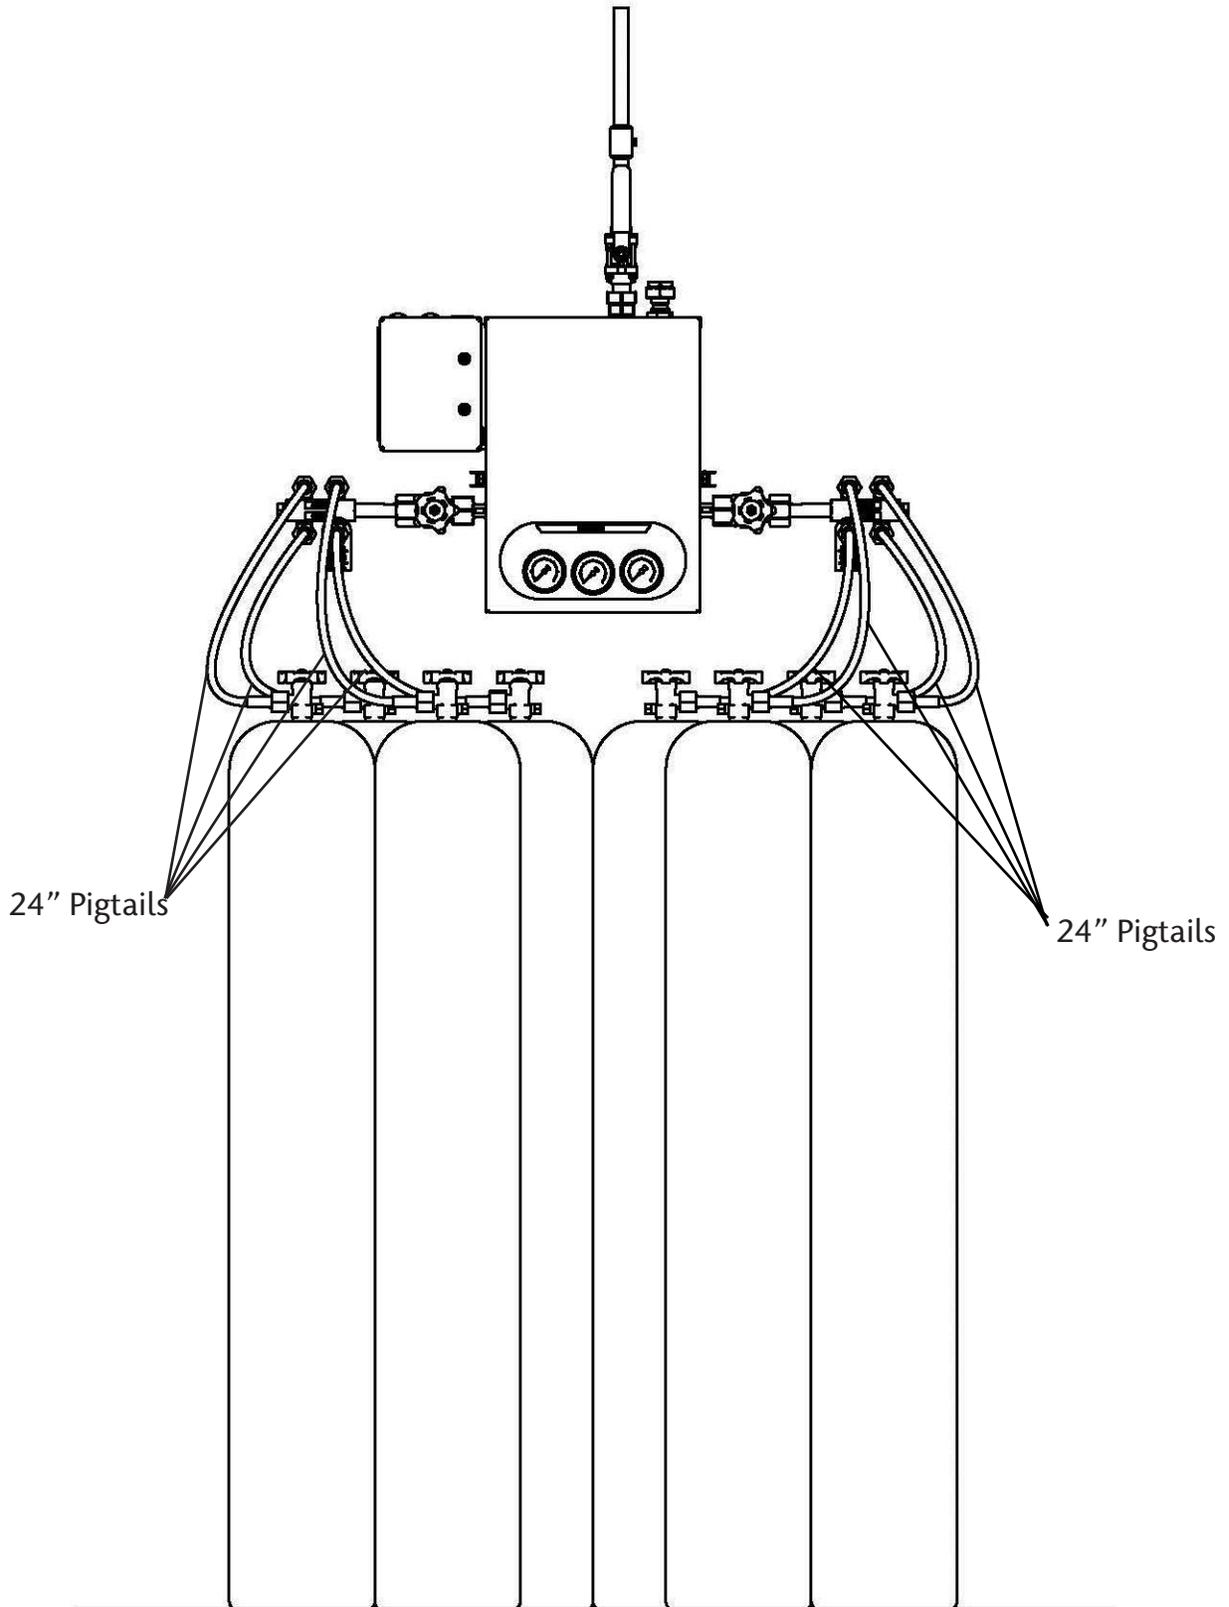

Figure 10
All manifolds other than O2, He, CO2O2, O2CO2, HeO2, O2He, ISO N2O, ISO Inst. Air, and ISO Med. Air utilize 24" length flexible stainless-steel braided pigtails. All cylinders on the right bank of the manifold, even those placed directly beneath should be positioned so that the cylinder outlets face right. All cylinders on the left bank of the manifold, even those placed directly beneath should be positioned so that the cylinder outlets face left. Figure 10 illustrates a typical 4 x 4 manifold system utilizing 24" length flexible pigtails.
3. Position gas cylinders as shown in Figures 10 and 11. Secure each cylinder to wall or floor stand with chains or straps.